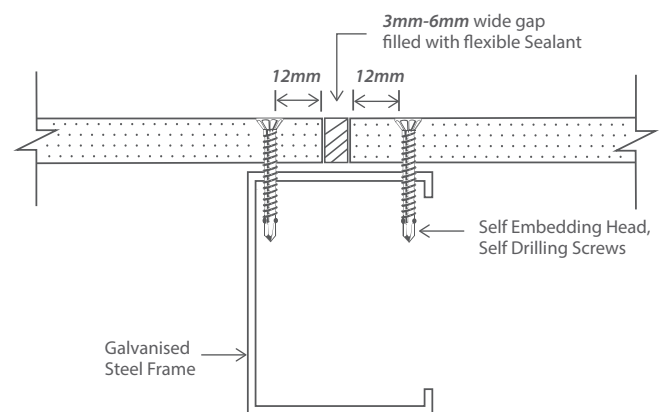
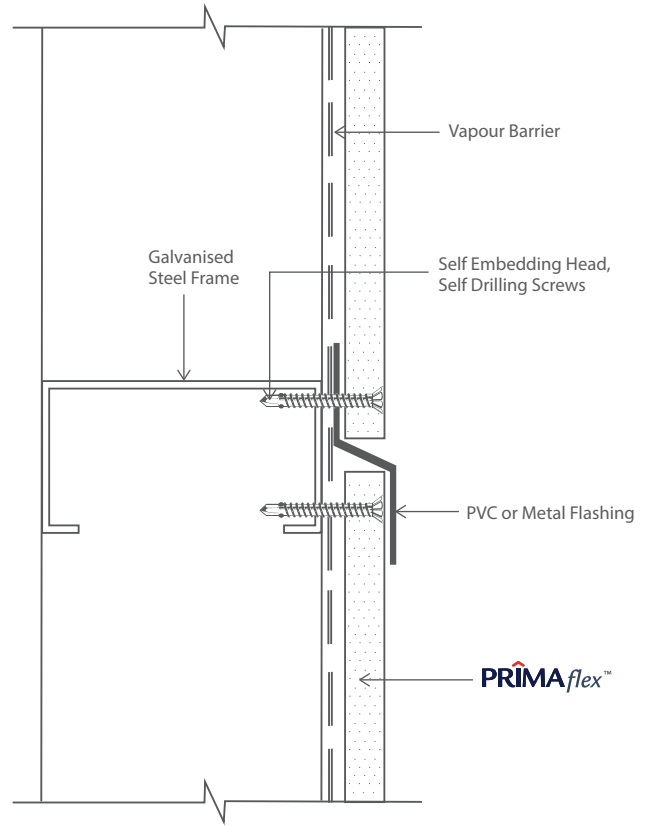

Figure 2.6: Sealant Joint
Figure 5.4 – Horizontal Joint
3. Jointing system which include sealant joint with 3 to 6mm gap between boards is illustrated in Figure 2.6.
Horizontal joints occur when a building height exceeds the length of a full size sheet or when a building is more than one storey high. At horizontal joints, boards must be supported and secured to framework (noggings). Provide preformed PVC or galvanised steel flashings to all **PRIMAflex™** horizontal joints. Flashings should be fixed to noggings at **200mm** centres. Refer to **Figure 5.4**. Board joint can also be covered with sealant mould or timber joint as shown on **Figure 2.6** and **2.7**.